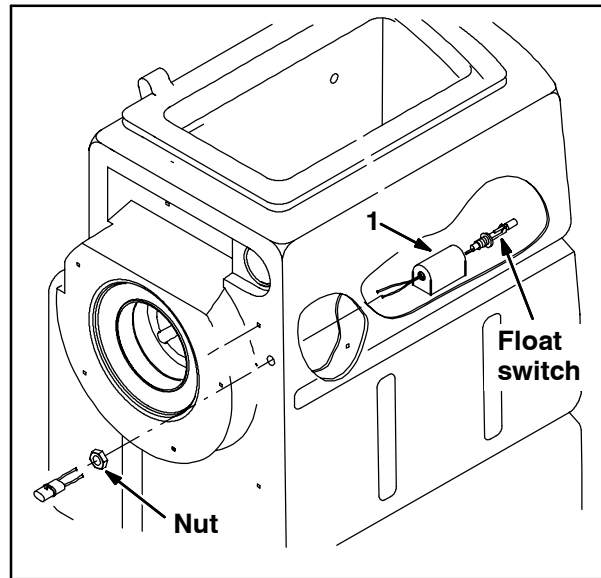

FIG. 6
4. Position the float switch and float switch protector bracket (1) inside the recovery tank and pull the wires from the float switch out through the same hole in the recovery tank where the float switch had previously been installed. Be sure the mark on the float switch remains at 12:00. Refer to Fig. 6.
5. Tighten the nut back onto the float switch. Be sure the mark on the float switch remains at 12:00. Refer to Fig. 6.